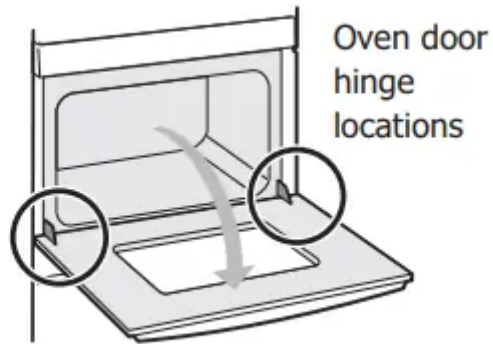

Figure 30: Door hinge location
3. Fully open the oven door, horizontal with floor (Figure 30).